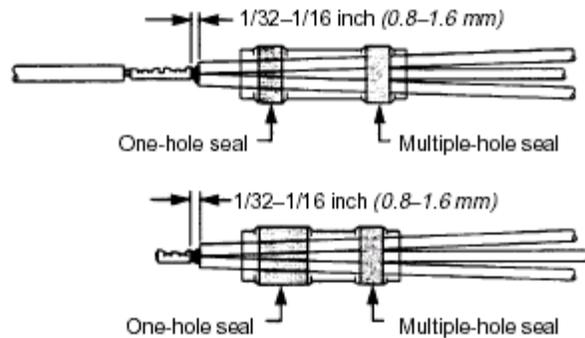

Figure 20-19 Multiple Wire Crimp Splice
5. Crimp the wires in the crimp splice as shown in Figure 20-19.